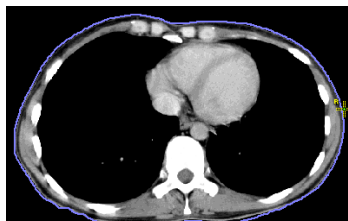

Figure 286 – Defining the right point of the bolus
- The cursor is now marked as **R**. Click the rightmost point of the bolus, as described above for the leftmost point (see Figure 286).